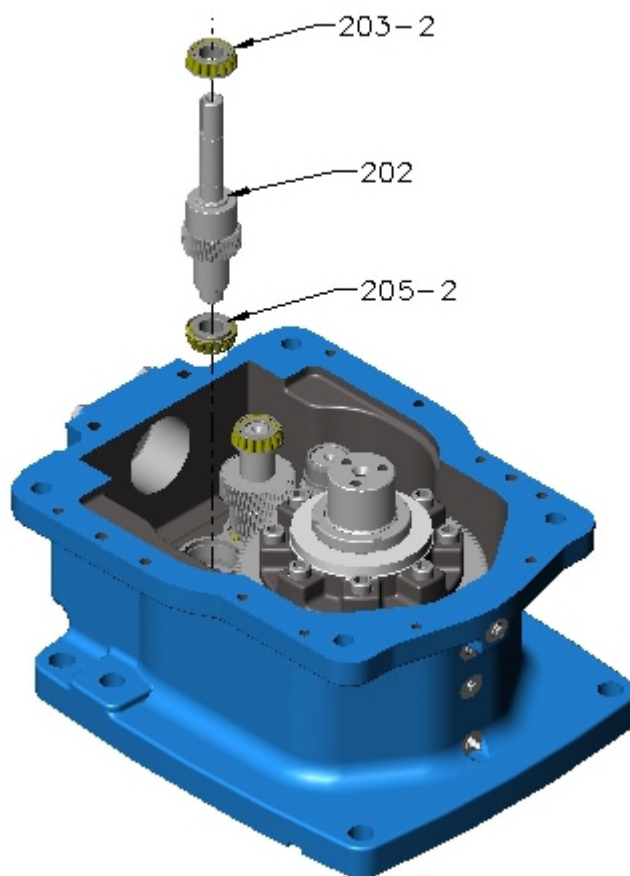

Figure 7 – Input Shaft
- H. Remove input shaft assembly (refer Figure 7).
- I. Input shaft disassembly (refer Figure 7):